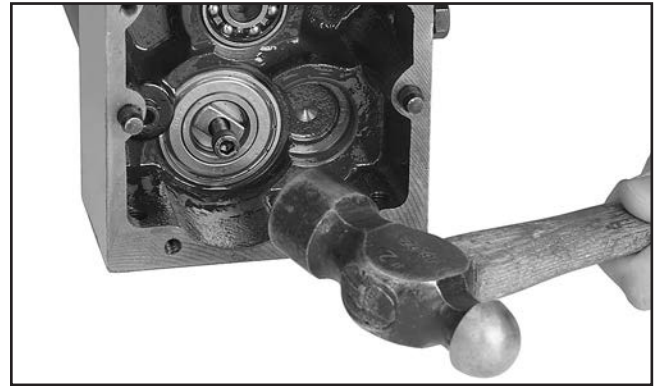

Figure 11. Cutterhead removal.
26. While supporting gearbox, remove cutterhead by tapping on screw or bolt with a hammer, as shown in **Figure 11**. It may also be necessary to tap on back of gearbox with a rubber or wooden mallet.